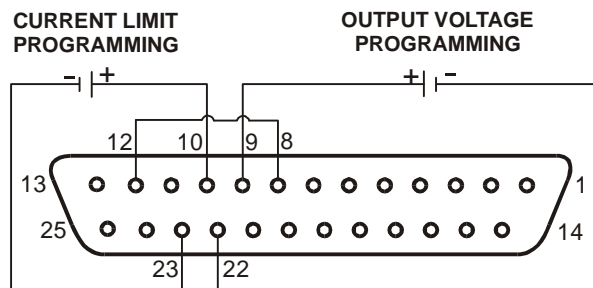

Fig. 6-1: Remote voltage programming connection
6. Connect the programming source to the mating plug of J1 as shown in Fig.6-1. Observe correct polarity for the voltage source.